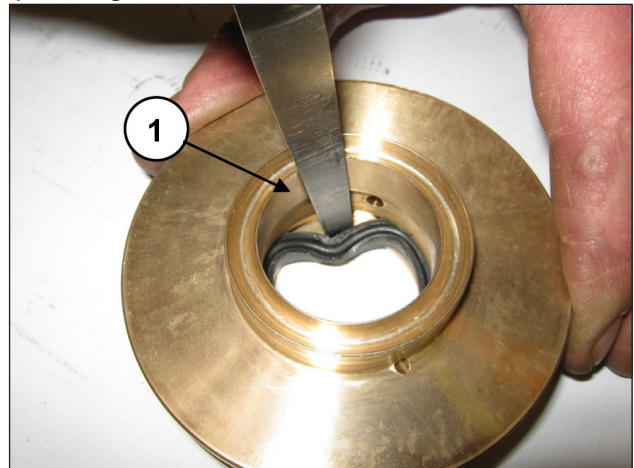

Fig. 180
To remove the low pressure seal, use a thickness gauge or another tool which will not damage the seal support housing (pos. ①, Fig. 180).